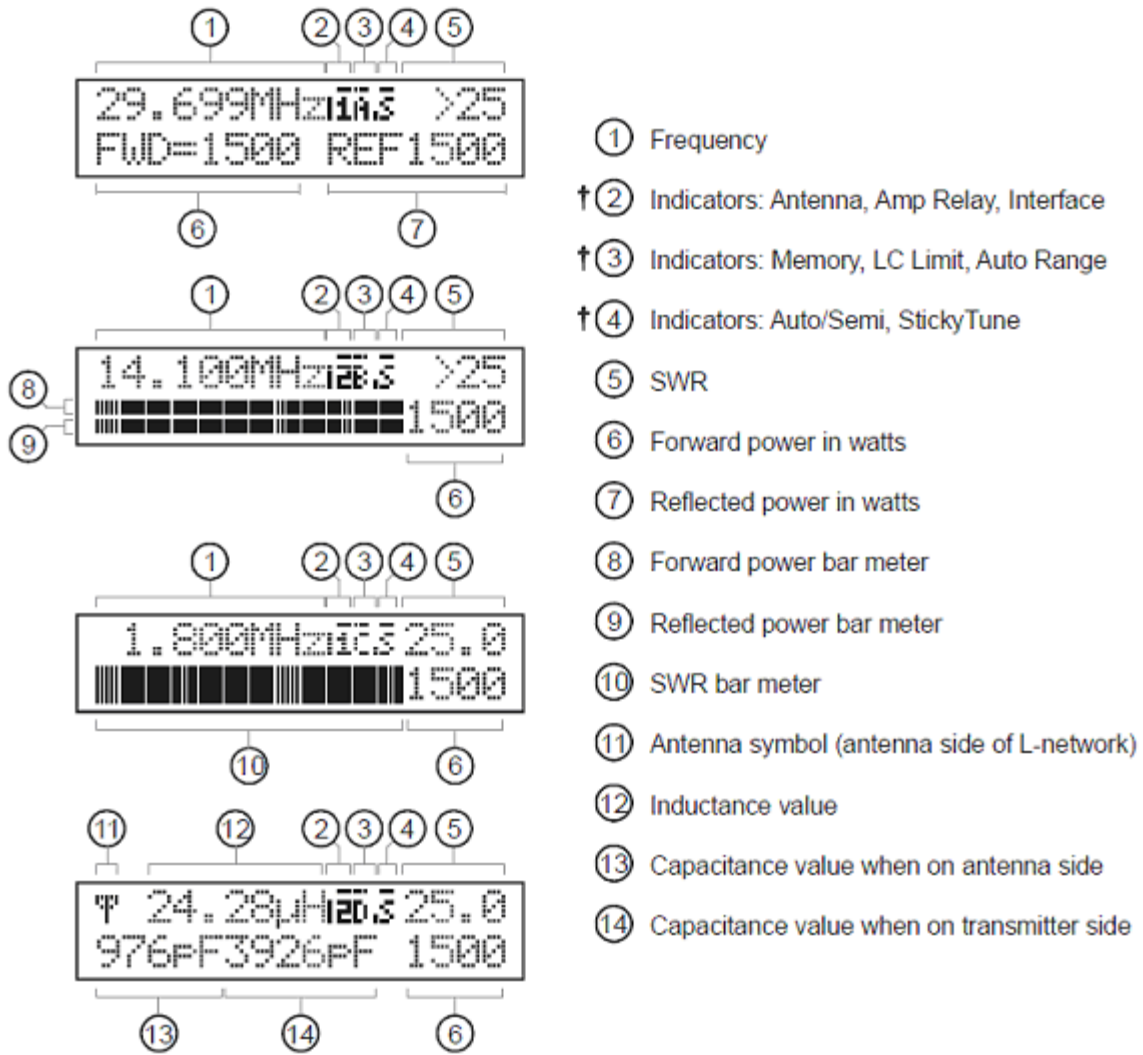
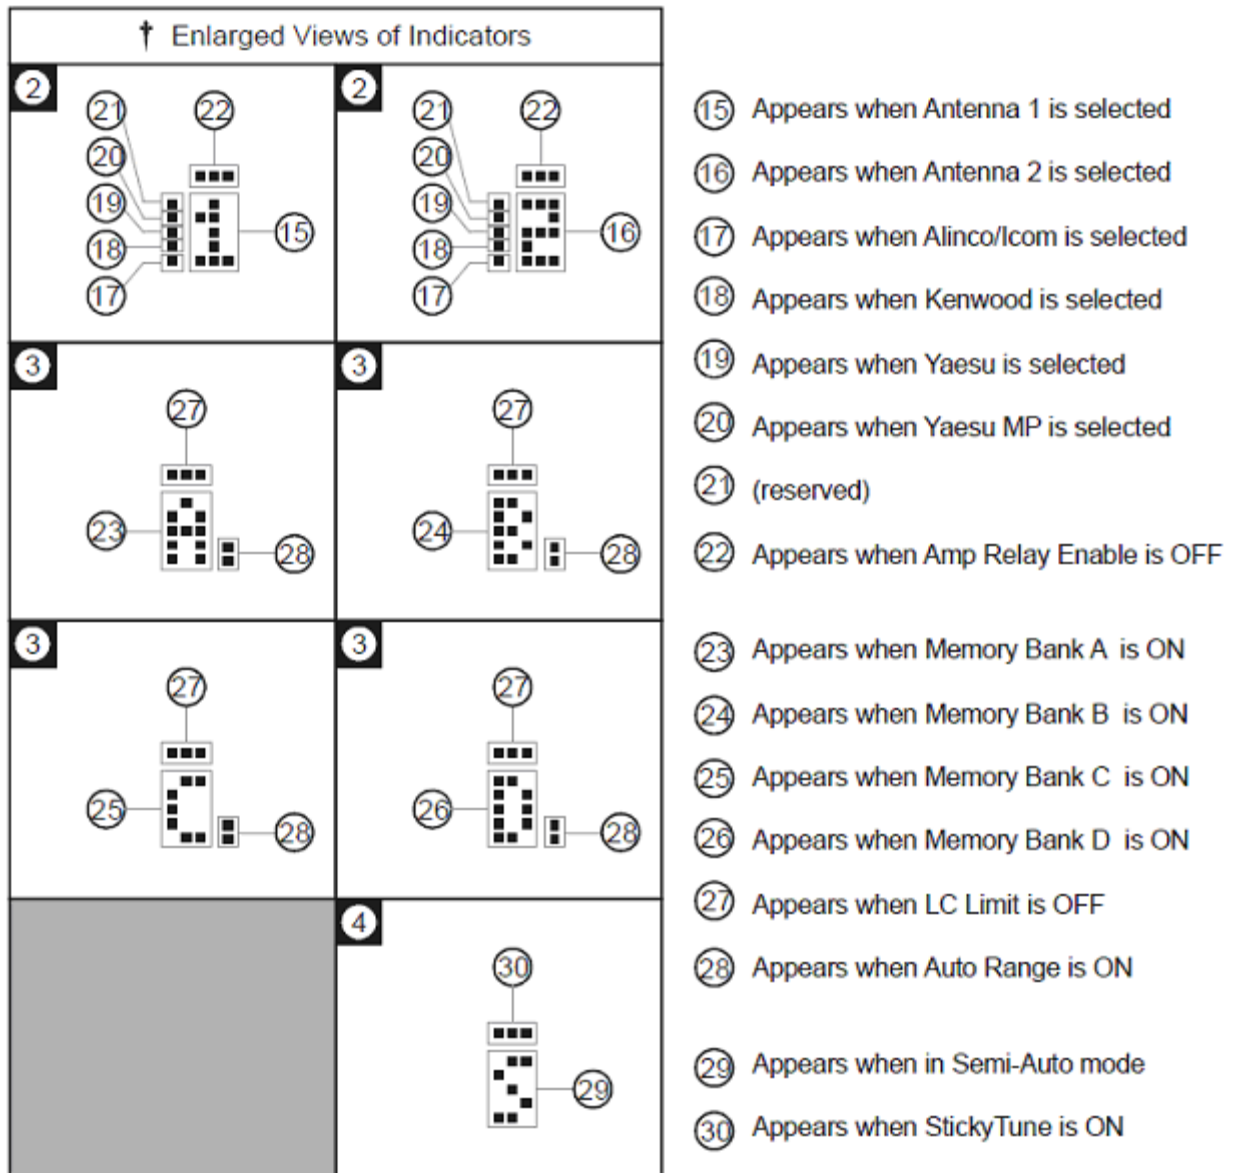

Figure 6 LCD Display
Figure 7 Display Tuner Indicators Enlarged
Press and hold the [MODE] button for two seconds to enter the setup mode (see below). Various tuner indicators are shown on all four main menus: Antenna banks 1/2, *IntelliTune*™, Radio Interface, Memory, LC Limit, Auto Range, Auto/Semi, and *StickyTune*™. Refer to Figures 6 and 7 for details on the displayed information.
Various tuner indicators are shown on the main menus to indicate tuner status. Refer to Figures 6 and 7 for locations of these indicators. The number enclosed within () is the item number of Figure 7.
- Antenna Bank: A small “1” appears to indicate antenna bank 1 is selected (15); a small “2” appears to indicate antenna bank 2 is selected (16).
- Radio Interface: One dot appears on the left side of the Antenna indicator to indicate the selected radio interface (17-21). Refer to Figure 7 below. The Radio Interface function is not used in this tuner.
- Amp Relay Enable: When Amp Relay Enable is OFF, a bar appears on top of the Antenna indicator (22). The Amp Relay function is not used in this tuner.
- LC Limit: When LC Limit is OFF, a bar appears on top of the Memory indicator (27).
- Auto Range: When Auto Range is ON, a two-dot vertical bar segment appears on the lower left corner of the Memory indicator (28).
- Auto/Semi: A small “S” appears to indicate semi-automatic mode (29); nothing appears to indicate automatic mode.
- *StickyTune*: When *StickyTune*™ is ON, a bar appears on top of the Auto/Semi indicator (30).
The upper limits of inductance (L) and capacitance (C) are factory-limited according to frequency and maximum power rating; i.e., higher frequencies need less inductance and less capacitance when the L-network is properly tuned. Pressing [C-UP] and/or [L-UP] allows capacitance and inductance to be increased only to these limits. When a selected capacitance or inductance is higher than its allowed limit, and the frequency is changed, that selection is automatically reduced to the value of its limit. These limits are used to prevent matching of extreme load impedance outside the tuner's specification, which may result in excess voltage and/or current across the tuner's components. This setting is not stored in nonvolatile memory and reverts back to the default when the tuner power is cycled. Refer to Figures 6 and 7 for the on-screen LC Limit indicator. If this feature is turned OFF, it will be re-set to ON whenever power is cycled. Default is ON.